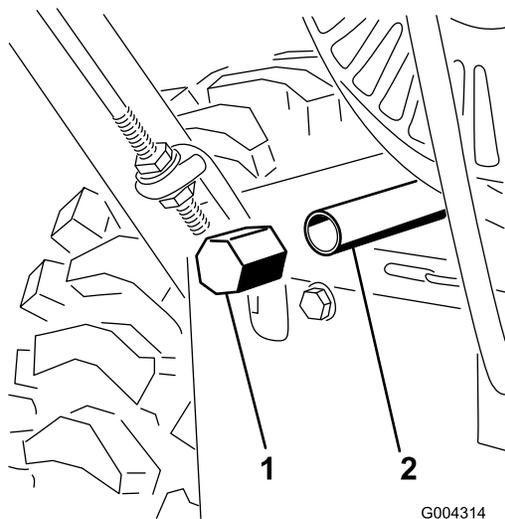

Figure 26
3. Clean the area around the oil drain plug (Figure 26).
4. Slide an oil drain pan under the drain extension and remove the oil drain plug (Figure 26).